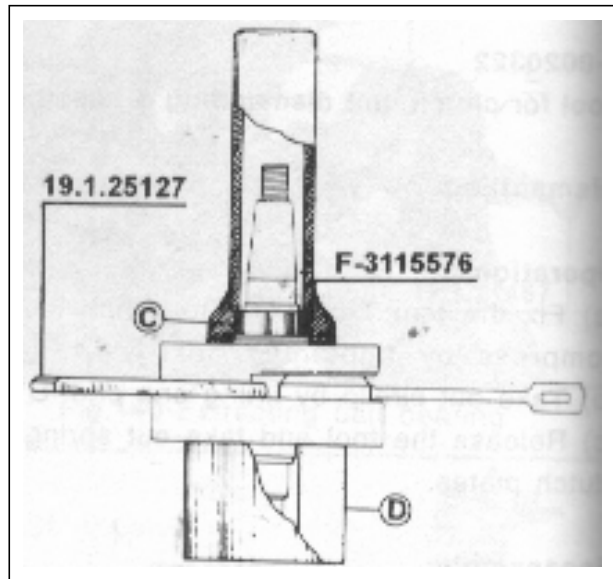

Fig. 149-Assembling bearing cone
- (a) Place crank shaft on a suitable block 'D'. (Fig.149)
- (b) Heat the inner cone 'C' in oil bath to temp. 100°C and fit on crank shaft with punch F-3115576. (Fig.149)
Use wedge T-0025127 for crank shaft web support to avoid deformation. (Fig.149)